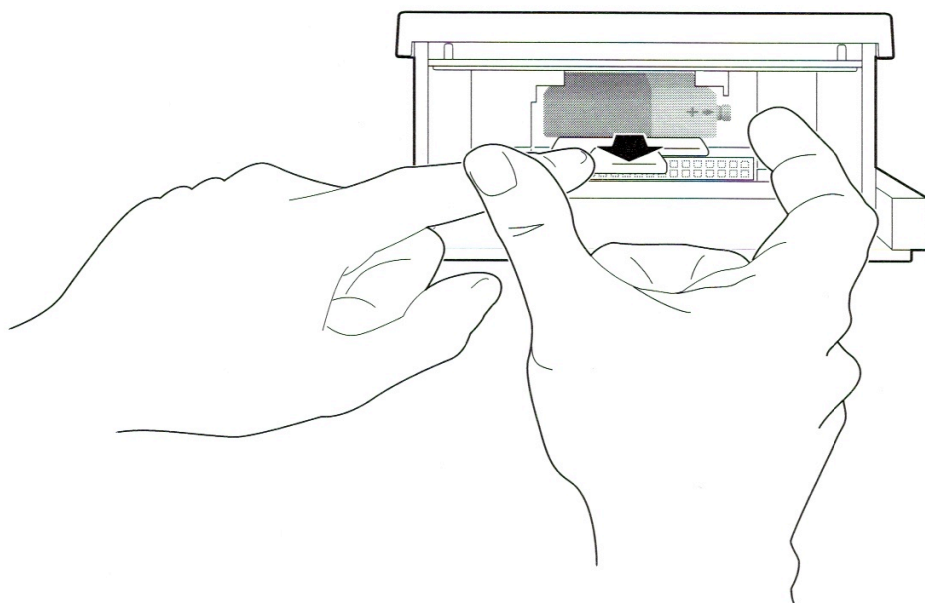

Figure 3-4 **Battery Removal**
3. While you use one index finger to press the plastic tab that holds the battery in place, slide the battery out with your other index finger and thumb. Refer to Figure 3-4.